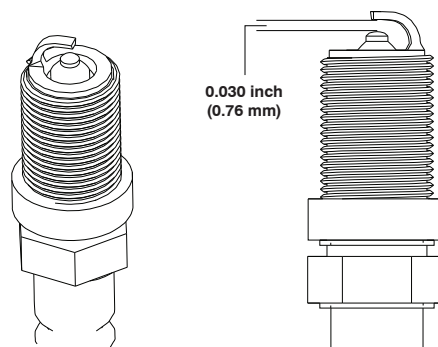

Figure 29
4. Remove the six screws that secure the shroud assembly (Figure 29).
11. Set the gap on the plug to 0.030 inch (0.76 mm) (Figure 29).